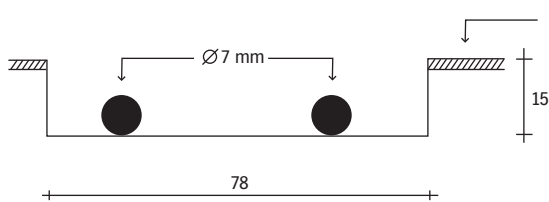

figure 2
- Create a floor opening with a breadth of 78 mm and a depth of 15 mm from the top of the finished floor (see Figure 2).
Apply 2 adhesive beads (breadth: 7 mm) of VARI-STEPP FIX along the full length of the VARI-STEPP door sill (see Figure 2).